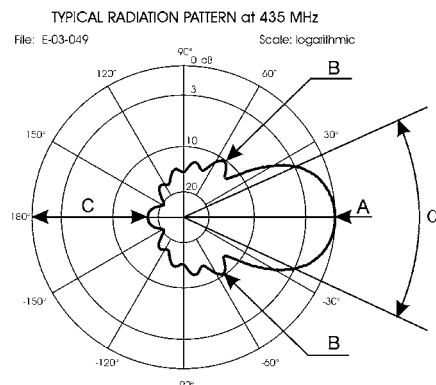
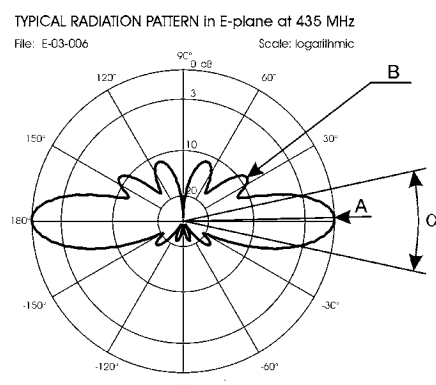

Fig 1
Fig 2
Radiation angle (A): is the angular value expressed in degree (°) respect to the horizon where the maximum gain has been measured (see fig 1 and fig 2). This is a very important value for long distance connection (DX) both for the omnidirectional and directional antennas. This parameter is directly influenced by the relation between wave-length and ground height.
Half Power Beam Width (α): is the angular value expressed in degree (°) inside which the radiated power is reduced of one half (-3 dB) respect to the maximum value (see fig 1 and fig 2). The -3 dB beamwidth is related to gain. The relationship is such that when gain increases the beamwidth decreases and vice versa.
Side lobes level (B): Side lobes are spurious lobes more or less marked that normally are closed to the main lobe and waste power towards undesired directions (see fig 1 and fig 2). To get a better efficiency and higher gain of the main lobe it's necessary to reduce the side lobes to an acceptable level.
Front to back ratio or F/B ratio (C): indicated only for directional antennas like: yagi, log-periodic, horn, etc. it is the ratio of the radiated power in a maximum radiation direction to the radiated power in the opposite direction (at 180° from maximum, see fig 1).